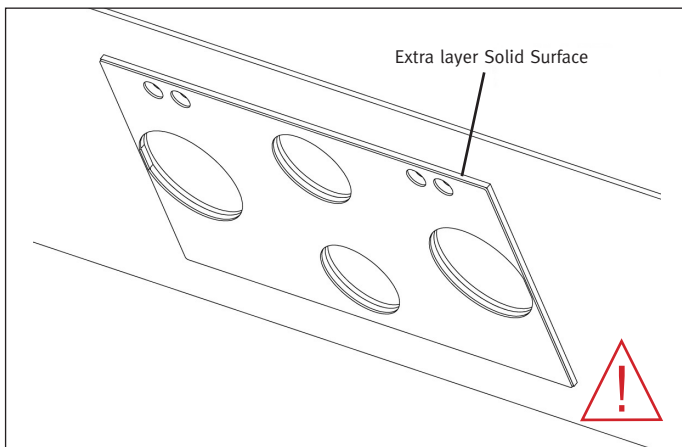

Fig. B1
- Always glue an additional layer of Solid Surface of the same dimensions as the heat diffuser on the underside of the countertop. This layer should be of the same thickness as the countertop (fig. B1).